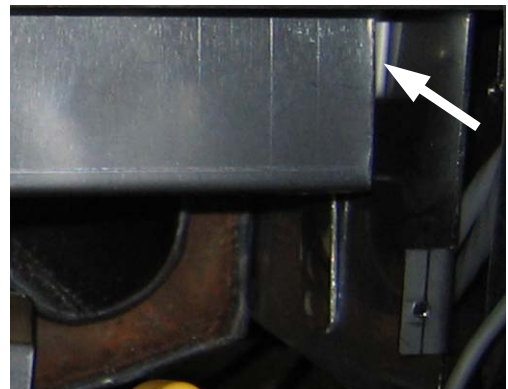
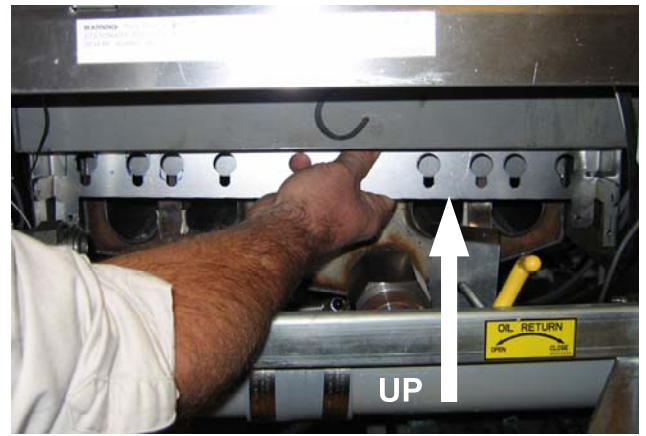

Figure 8: Rotate and lift the brace to clear the upper tab.
Figure 9: Slide the brace up, flush with the frypot.
- D. Rotate the brace away from the frypot (toward the front of the fryer). Move it up until the top edge is over the top/back tab (Figure 8). Rotate the brace back toward the frypot until the keyholes point away from the frypot (toward the front of the fryer) again, as shown in Figure 9 on the next page.
- E. Slide the brace up so that it is flush with the frypot (Figure 9). Ensure the holes on the tabs at each end of the brace are aligned with the matching holes on the fryer. Secure the brace to the fryer at both ends by using a 1/4-20 self-tapping screw on the upper hole and a #8 sheet metal screw on the lower hole.